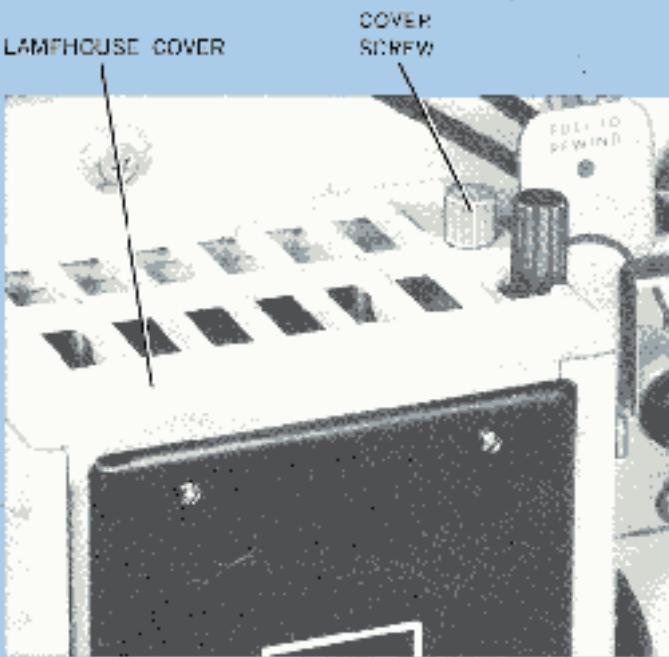

FIGURE 11
**Projection Lamp:** Loosen the lamphouse cover screw and lift off the lamphouse cover. (See Figures 11 and 12.)